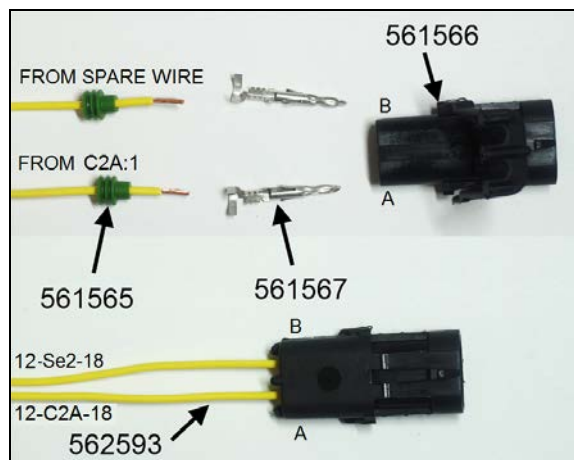

Figure 19
32. Install green seals #561565 on one end of each new wire (Figure 19).
33. Install terminals #561567 on one end of each new wire (Figure 19).
34. Install terminals with wire (2) into the female connector #561566 (Figure 19).